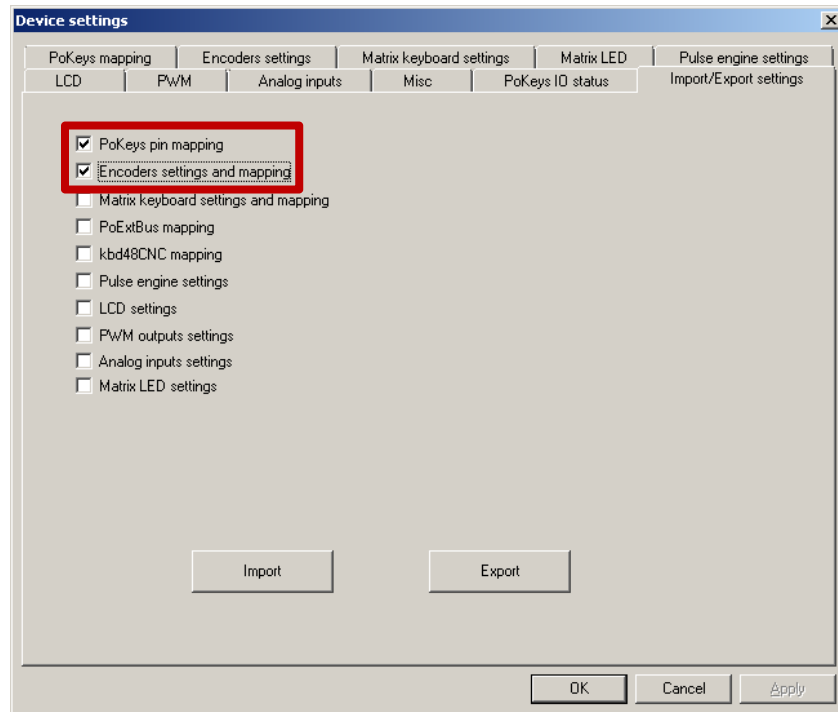

FIGURE 11 - POKEYS SETTINGS IMPORT
14. Check PoKeys pin mapping and Encoders settings and mapping (see Figure 11)